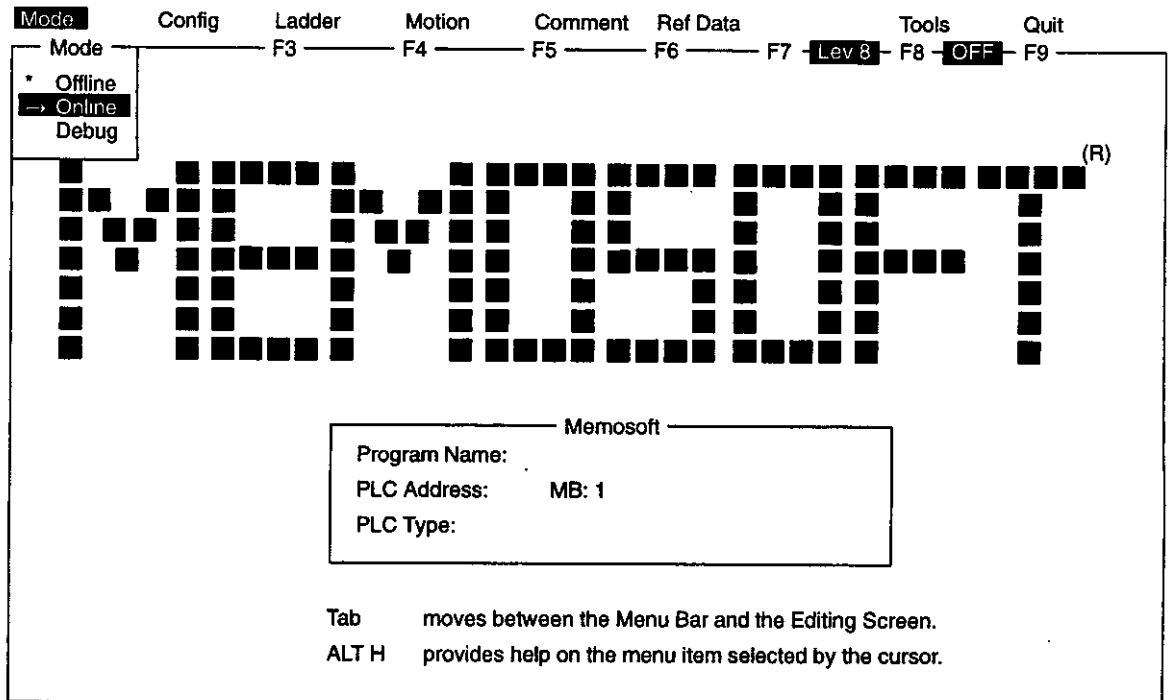

Figure 4.1 Online
- a) Startup MEMOSOFT and go online with the PLC. (*Figure 4.1*)